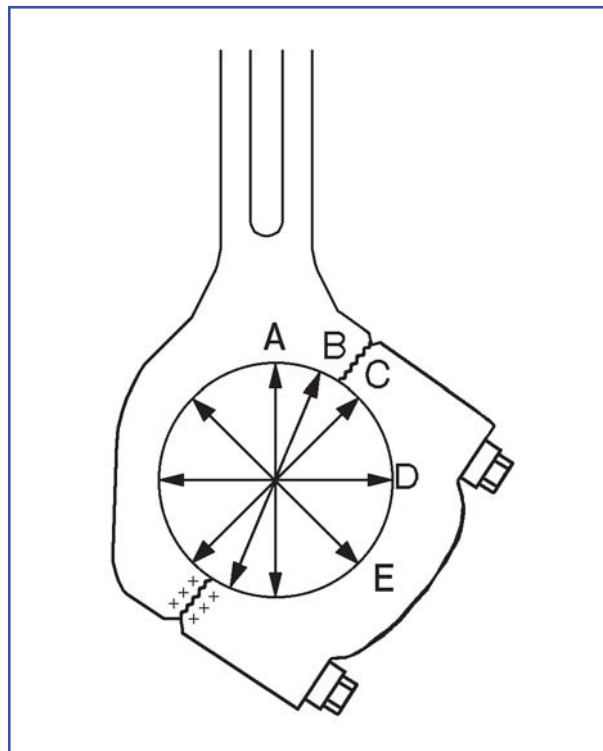

Figure 1: Point of measurement
- 3) Measure five different diameters in the middle of the boring, *see fig 1.*